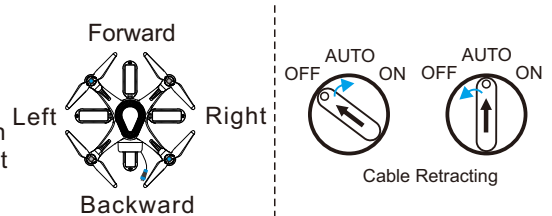

Figure 5: Drone Orientation Diagram
- ① To power on or use the mooring integrated box, you need to connect an external power supply.
- ② When the system is disconnected from the external power supply, the backup battery of the tethered box will supply power to the box and the drone, and the buzzer of the case will start to alarm, and the backup battery will stop supplying power after about 5 minutes. (If you need to quickly turn off the backup battery power supply of the tethered Box, you need to rotate the “Cable Retracting” on the tether Box back and forth within 15 seconds from off to auto for a total of 5 round trips).
- ① The direction of the drone itself (as shown in Figure 5), the rounded blue and white top cover is the nose, and the sharper part is the tail.
- ② When flying at night, the color of the lights on the bottom of the wings can be used to determine the direction of the drone; the side with the red light on is the nose, and the side with the blue light on is the tail.